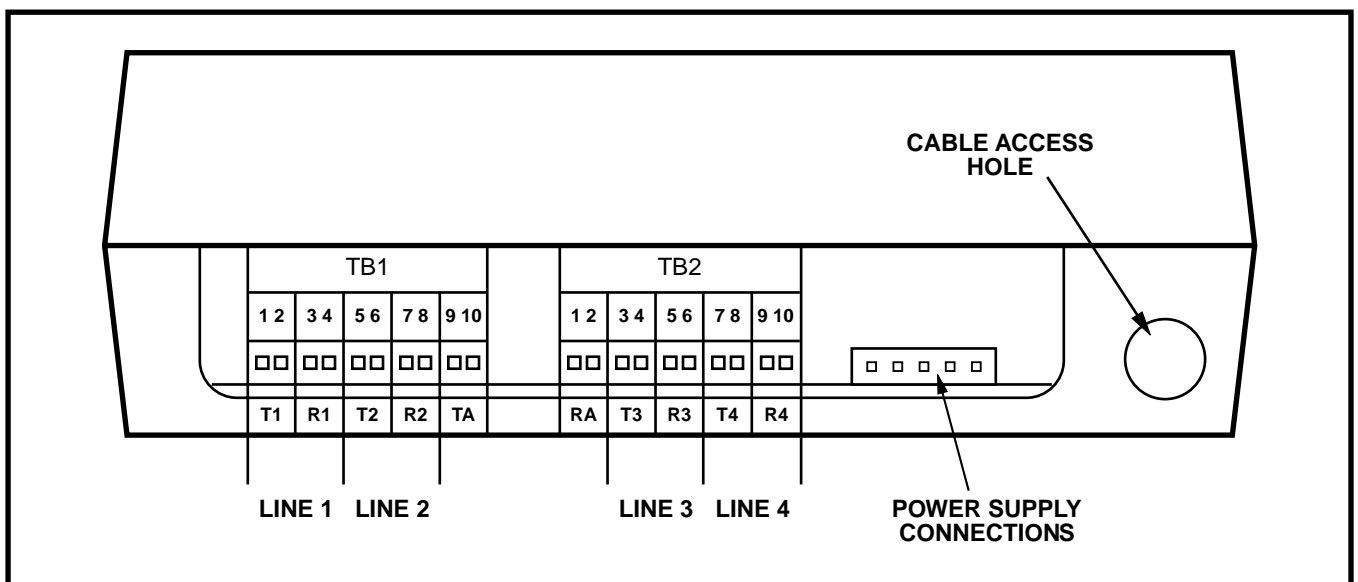

Figure 1. Rear View of the Telco Line Bridge
1. Remove the cover from the TLB and connect the leased lines and the modem to terminal blocks TB1 and TB2 as shown in Figures 1 and 2. Cable ties have been included to provide strain relief for each cable.